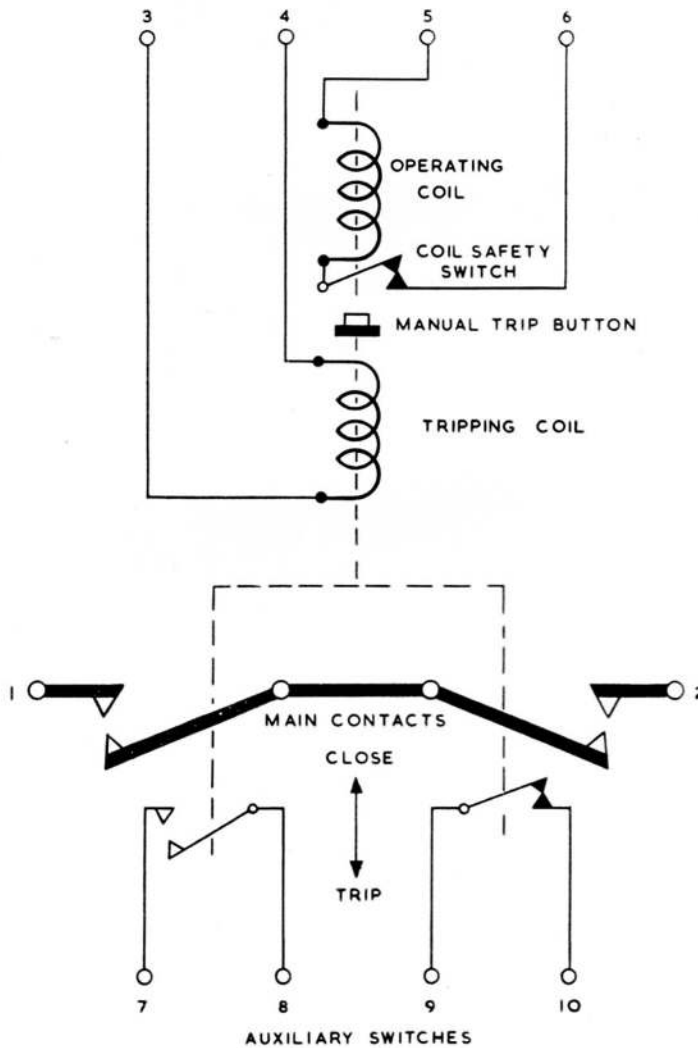

Fig. 3. Diagram of internal connections
5. Measure the resistance of each coil between the appropriate terminals on the four-way terminal block (see fig. 3). When corrected to an ambient temperature of 20 deg. C. the resistance of the operating coil should be 3.7 ohm \pm 5 per cent and the resistance of the tripping coil should be 36 ohm \pm 5 per cent.